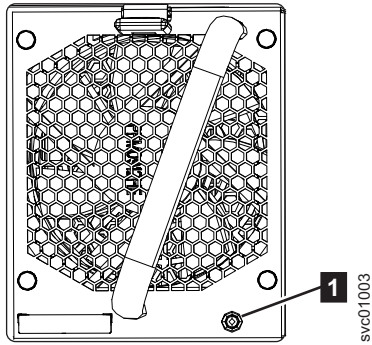

Figure 84. Fan module LED
**Important:** Because this task is disruptive to the storage system, always attempt fan replacement first. See “Removing a fan module: 2076-92F” on page 226 and “Installing or replacing a fan module: 2076-92F” on page 264 for information about the removal and replacement procedures. Ensure that both fans are installed correctly. Perform the following procedure only if the amber fault LED on each fan remains lit ( **1** in Figure 84 on page 229).